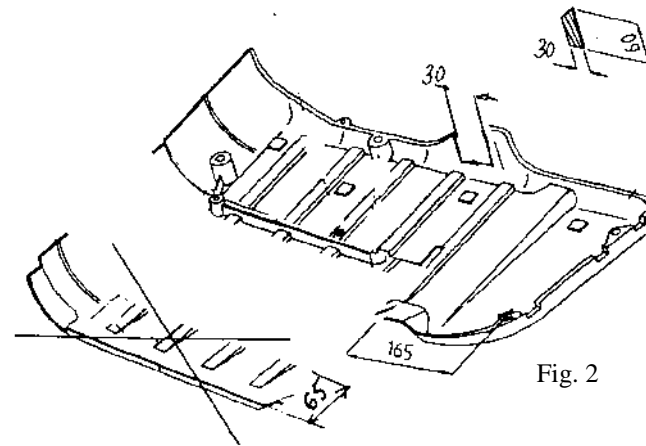

Fig. 2
- Reassemble the cover after cut fragment as shown on figure 2.